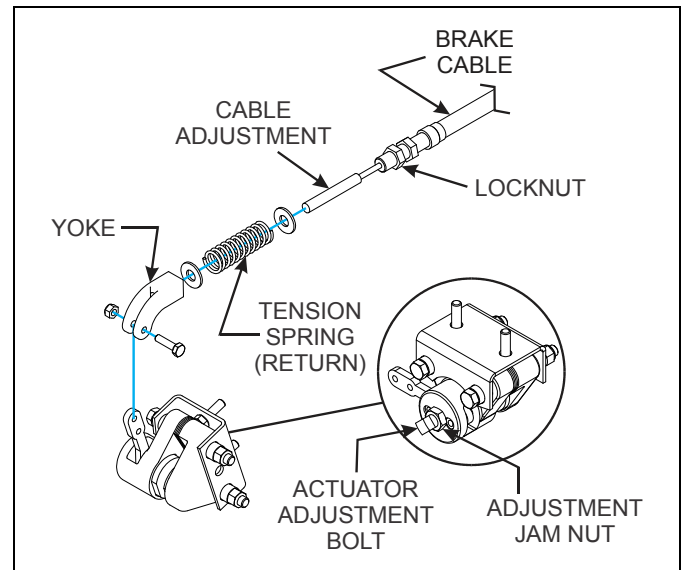

Figure 3-15: Parking Brake Cable - Caliper End
6. Remove the cable from the truck noting how the cable is positioned (See Figure 3-15).
5. Loosen adjustment bolt jam nut (See Figure 3-15).
6. Adjust actuator adjustment bolt to desired position (See Figure 3-15).